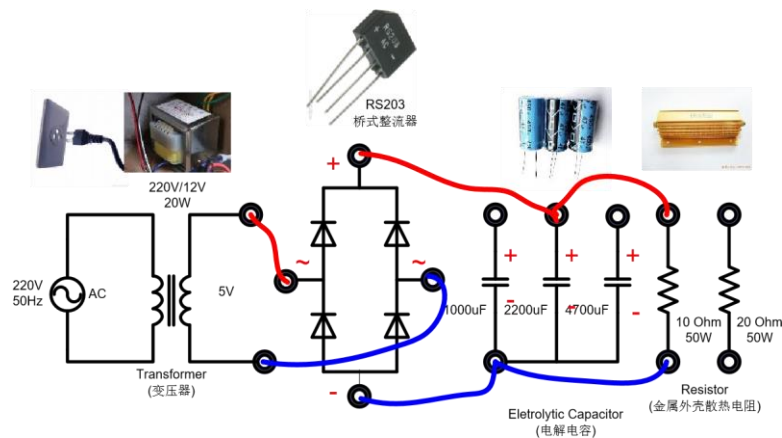

Figure 8: Full-wave rectifier with capacitive filter of 4700 F
- Configure the power supply unit for full-wave rectification as shown in Figure 8. Use the 2.2mF capacitor for smoothing.